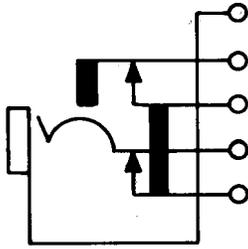

Fig. 2—216-Type Jack
2.02 216A, C, and F: These single-mounted jacks (Fig. 2) are used with 1D, 1E, 153, 209, 241, 305, 327, 328, 347, 373, and 464 plugs. These jacks are heavily insulated. They are arranged for use with the 347 and similar-type plugs. These jacks are mounted with the springs in a vertical plane. The terminal of the tip spring and terminal of the spring, which makes contact with it, are arranged to accommodate two No. 16B and S gauge wires. The 216F jack is equipped with No. 2 metal contacts and the tip spring has a gold-plated surface for contacting the plug.